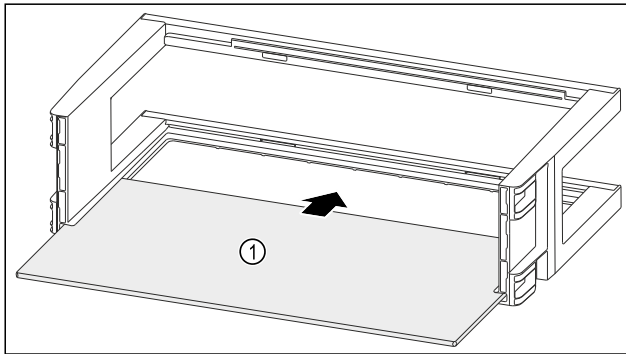

Fig. 113
- ▶ Push the shelf Fig. 113 (1) into the side recesses.